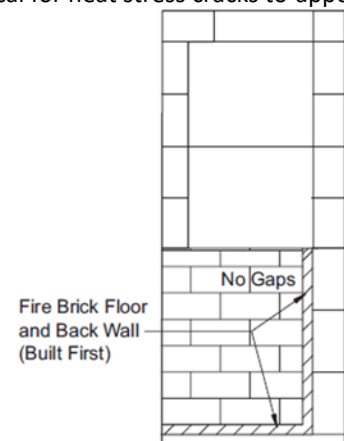

FIGURE 28
3. Set the side wall firebrick by starting at the front edge of the unit's side wall and working inward toward the back wall firebrick. The side wall firebrick, when completed, covers the ½" expansion gaps where both the floor firebrick and the back wall firebrick were held off the unit's side walls. (Figure 28)